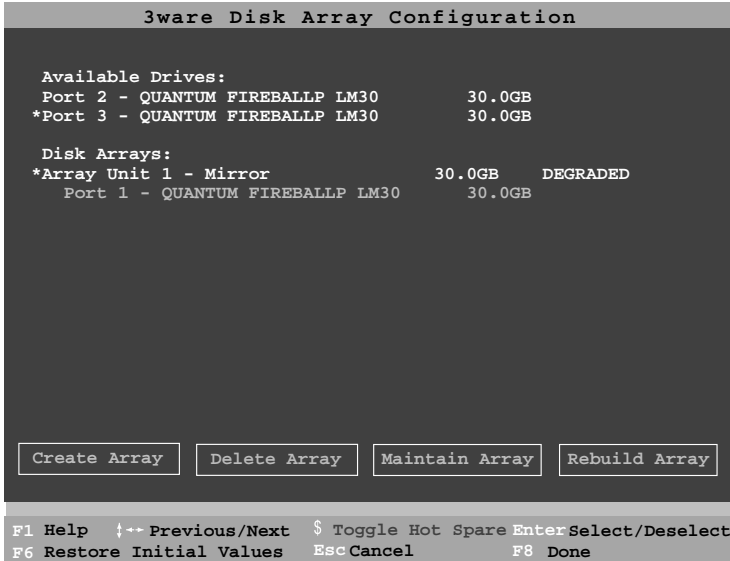

Figure 16. Select Available Drive to Replace Faulted Drive, RAID 1 Example
- 6 Select an available drive to replace the faulted drive in the array by navigating the cursor over the available drive and hitting **Enter**. (See Figure 16.) An asterisk in the left most column indicates the drive is selected.